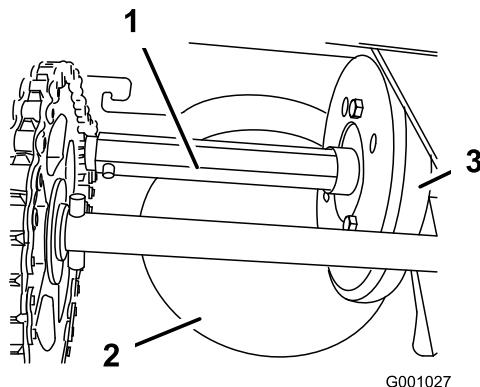

Figure 34
Lightly lubricate the hex shaft yearly with automotive engine oil (Figure 34).
**Important:** Do not get oil on the rubber wheel or the aluminum friction drive plate because the traction drive will slip (Figure 34).